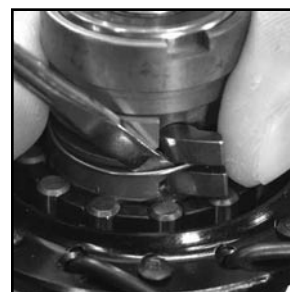

Fig. 10G
2. Push both pawls beneath the spring with a screwdriver (Fig. 10G). Make sure they are placed correctly (Fig. 11G).